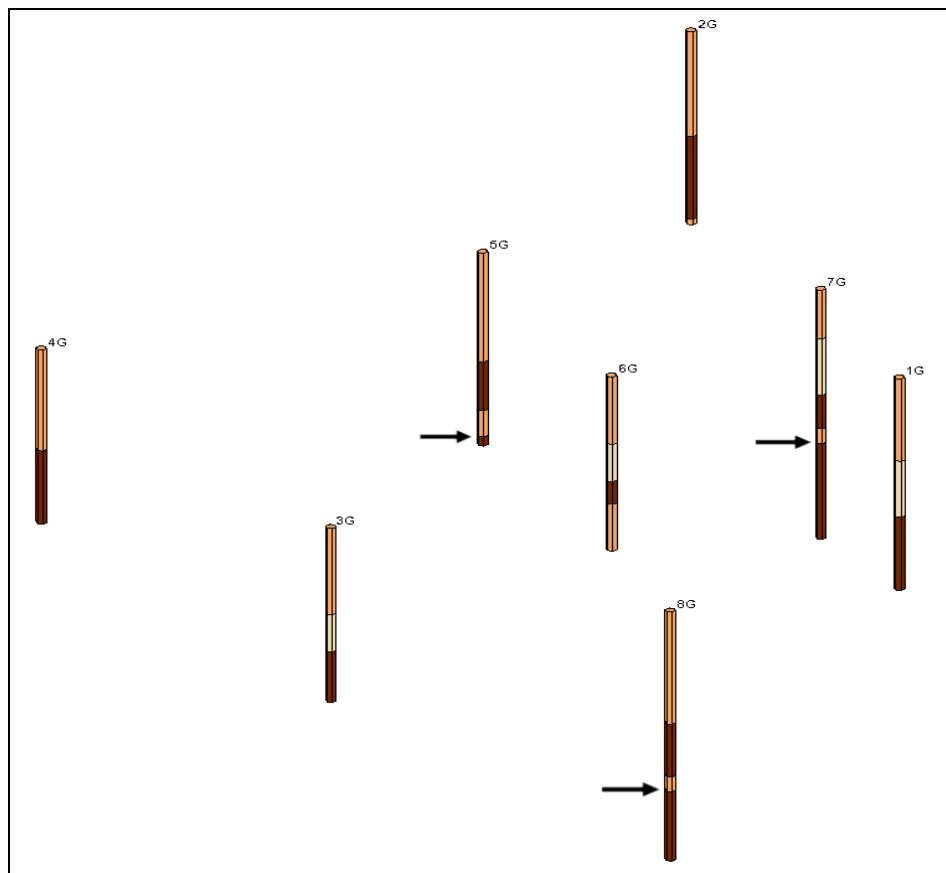

Figure 4. Contacts for Horizon 1.
1. Select the top of the lower silty sand material on hole 8G as shown in Figure 4 above.